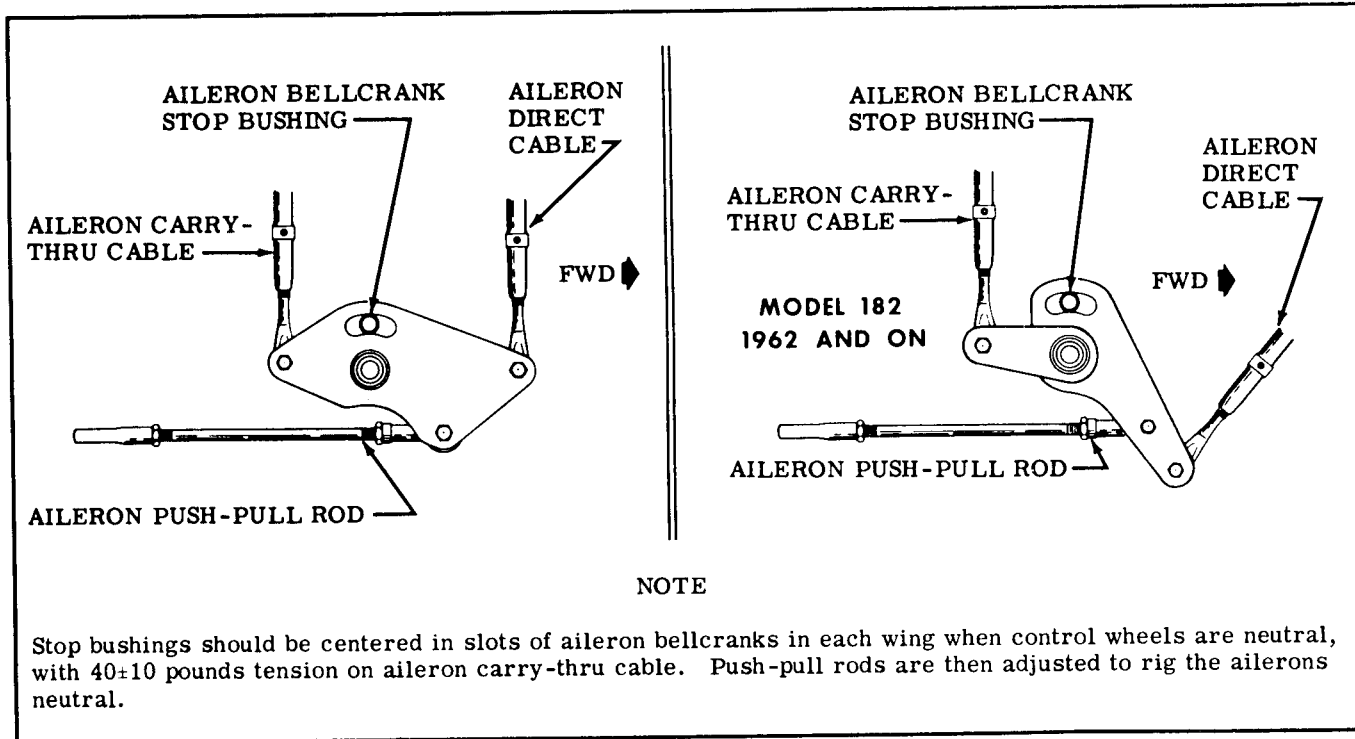

Figure 6-8. Rigging Aileron Bellcranks
e. (See figure 6-8.) Adjust the two turnbuckles at the aileron bellcrank in the right wing and the single turnbuckle at the aileron bellcrank in the left wing so that the bellcrank stop bushings are centered in both bellcrank slots, with  $40 \pm 10$  pounds tension on the aileron carry-thru cable.